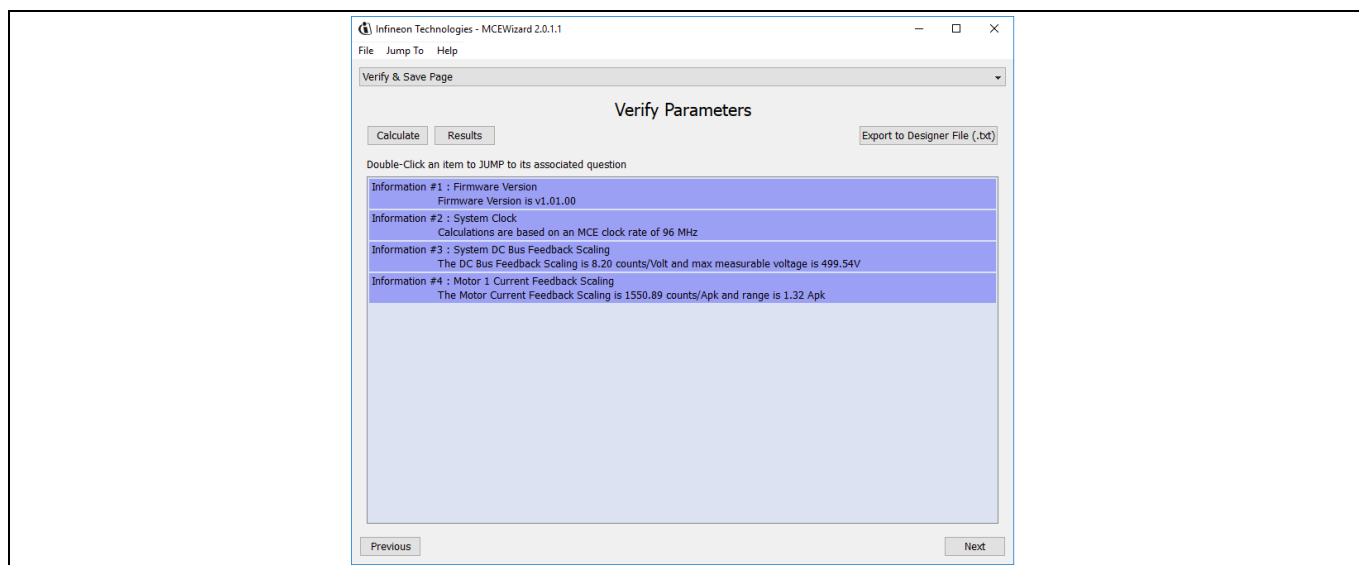

Figure 22 MCEWizard Verify and Save page
3. After system and operating parameters are set, go in the "Verify & Save Page" and click on "Calculate" button. If no errors are reported, it is possible to save the drive parameter set into your project directory by clicking "Export to Designer file (.txt)" (Figure 22); if some error is detected, double click on the error message (highlighted in red) and adjust the related parameter. Saved Drive System Parameter File will be later used by the MCEDesigner.